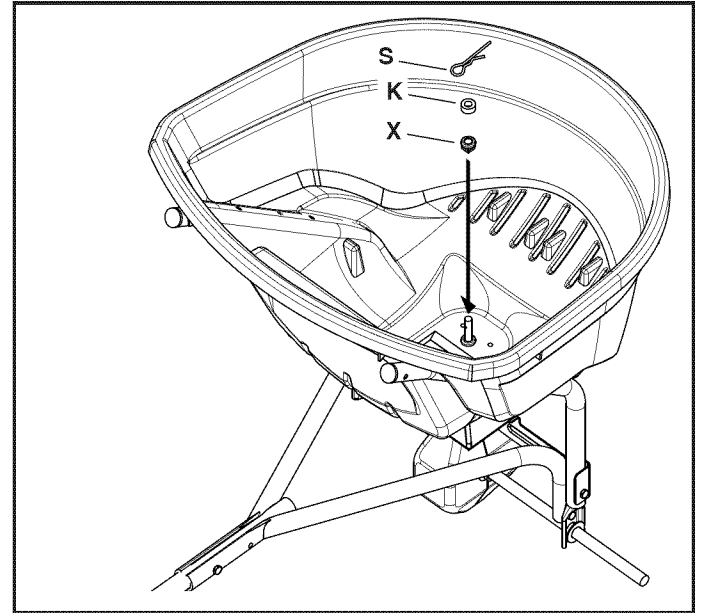

FIGURE 7
STEP 7: (SEE FIGURE 7)
- Slide the hopper bushing (X) onto the spreader shaft and insert it into the bottom of the hopper.
- Slide the spacer (K) onto the spreader shaft.
- Install the agitator hairpin (S) in the spreader shaft.